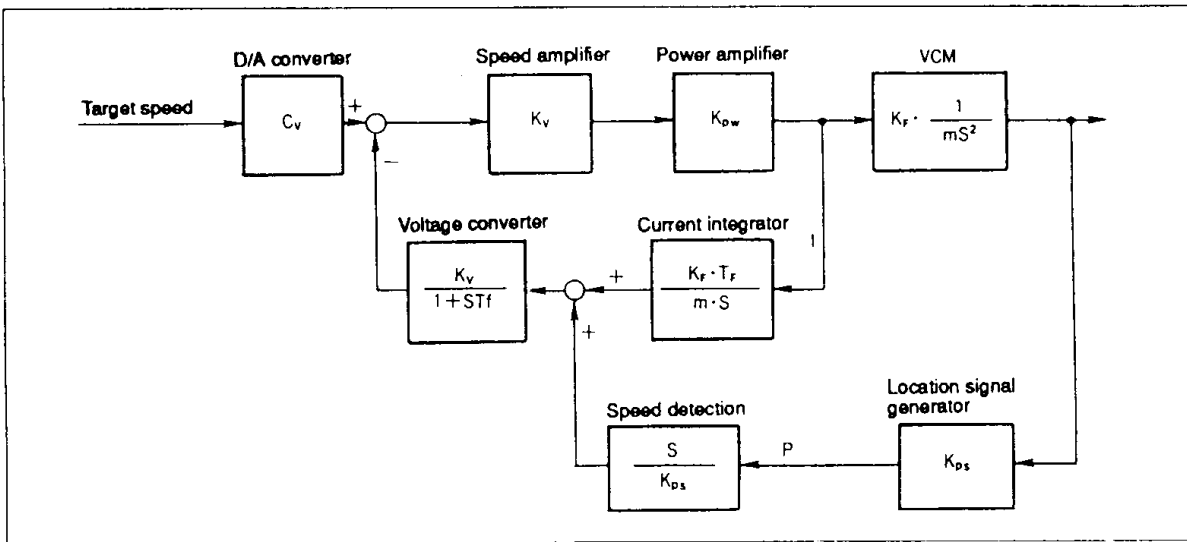

Figure 2 Speed Control Loop
**Speed Detection and Seek:** The actual speed is determined using the bandwidth division technique, which involves differentiating the position signal and integrating the current. Seek operation is carried out according to a speed profile which minimizes head movement. Figure 2 shows the speed control loop.